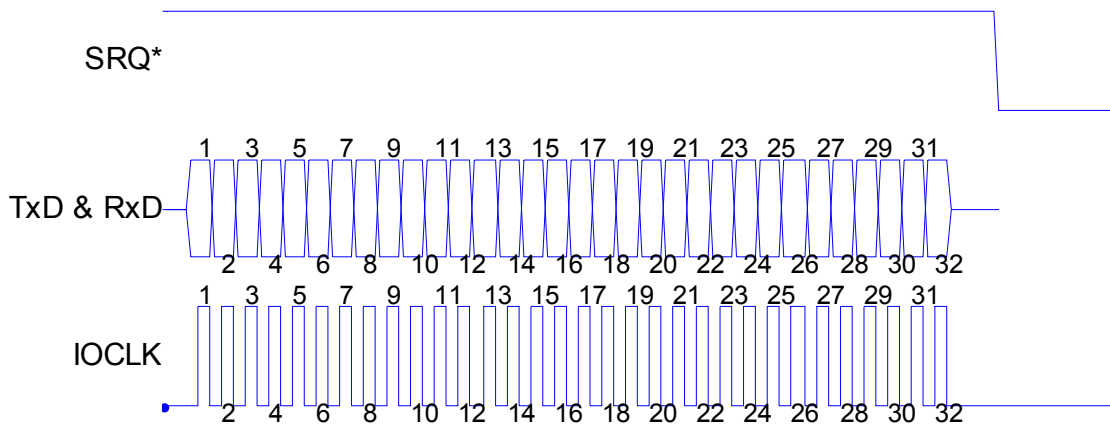

Figure 4.2-6 SPI Error Timing (Execution or Communication)
In the event of an error (either communication error (CE) or execution error (XE)), the SRQ* (service request) line is asserted, if configured. See Figure 4.2-6.